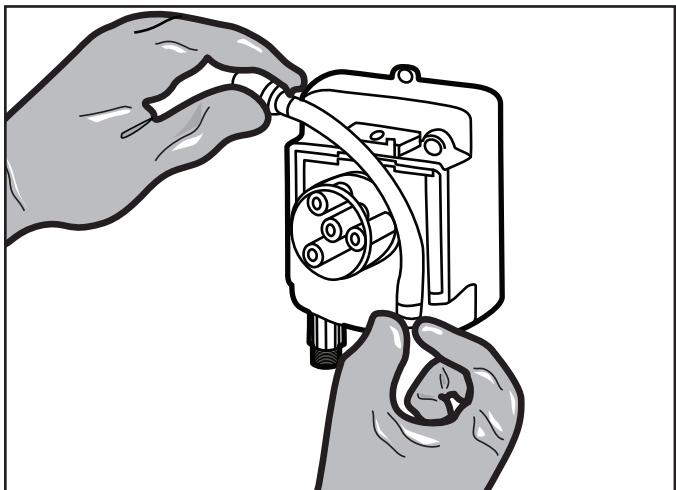

Figure 19. Remove Roller Assembly
- Release the fittings from the slots to remove the tube. See Figure 19.